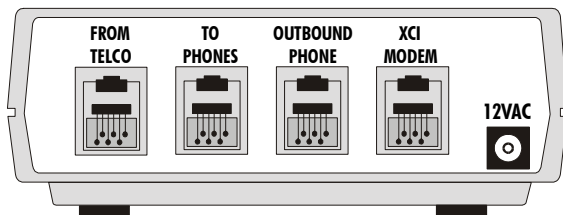

Figure 1. Modular ports and power input port on the rear panel of the Comscan.
The rear panel of the Comscan includes four (4) modular ports and a power input as shown in Figure 1.